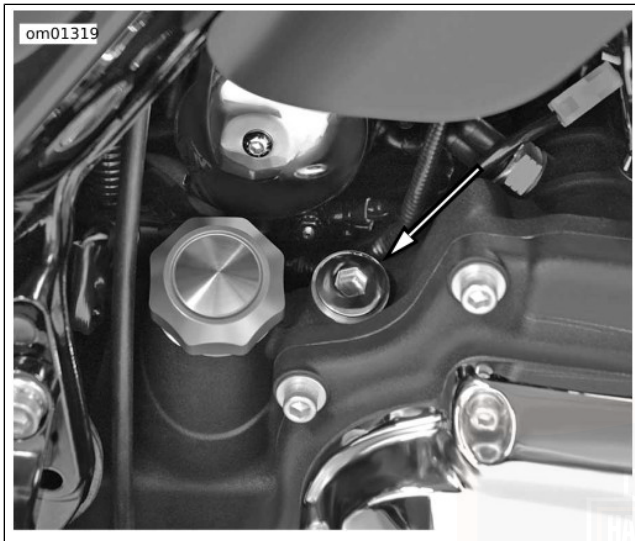

Figure 51. Transmission Filler Plug/Dipstick Location
2. See Figure 51. Remove the filler plug/dipstick and wipe off dipstick.
1. See Figure 51. Remove the threaded filler plug/dipstick.